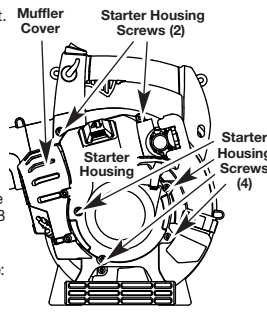

Fig. 28
- Remove the 2 muffler cover screws with a flat blade or T-25 Torx head screwdriver (Fig. 28), then remove the cover.
- Remove the 6 starter housing screws with flat blade or T-25 Torx head screwdriver (Fig. 28), then remove the housing.
**NOTE:** Make sure that the screws are reinstalled into their original holes (Fig. 28).
- Remove the 2 plastic muffler cover screws with a flat blade or T-25 Torx head screwdriver (Fig. 28), then remove the cover.
- Remove the 2 plastic and 4 aluminum starter housing screws with flat blade or T-25 Torx head screwdriver (Fig. 28), then remove the housing.